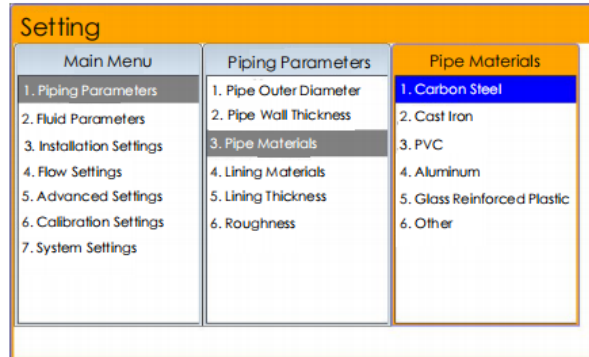

Figure 7 Pipe Material Selection
3) Press  to select "pipe material", the default is carbon steel, press  to enter the pipe material selection box, and then select the corresponding pipe material, press  to save and return to the upper menu (Figure 7). If there is no current pipe material in the pipe material selection column, then select other, press  to enter the pipe material speed input window (Figure 8), enter the speed of sound of the current pipe material, press Enter to save and return to the menu bar.